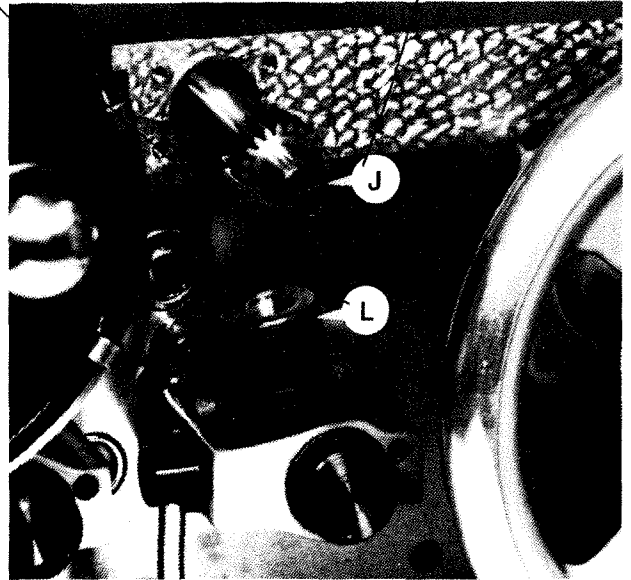

Figure 3.47 - Power Feed Drive Shaft Bearing
b) Remove drive shaft "J", Figure 3.47, from the front of the machine.
11. To install drive shaft "J", Figure 3.47:
- a) Install the drive shaft at the front of the machine, as shown in Figure 3.47 .